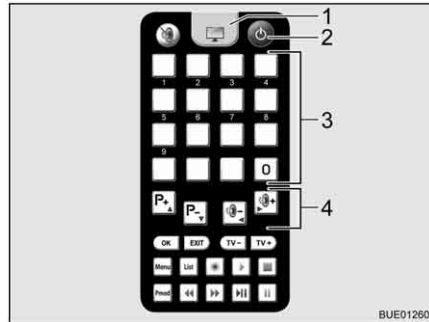

Fig. 24 Remote control
- Press the key "⏻" (Fig. 24,2) on the remote control.
- Use the memory buttons (Fig. 24,3) or the function buttons (Fig. 24,4) to set the required transmitter.